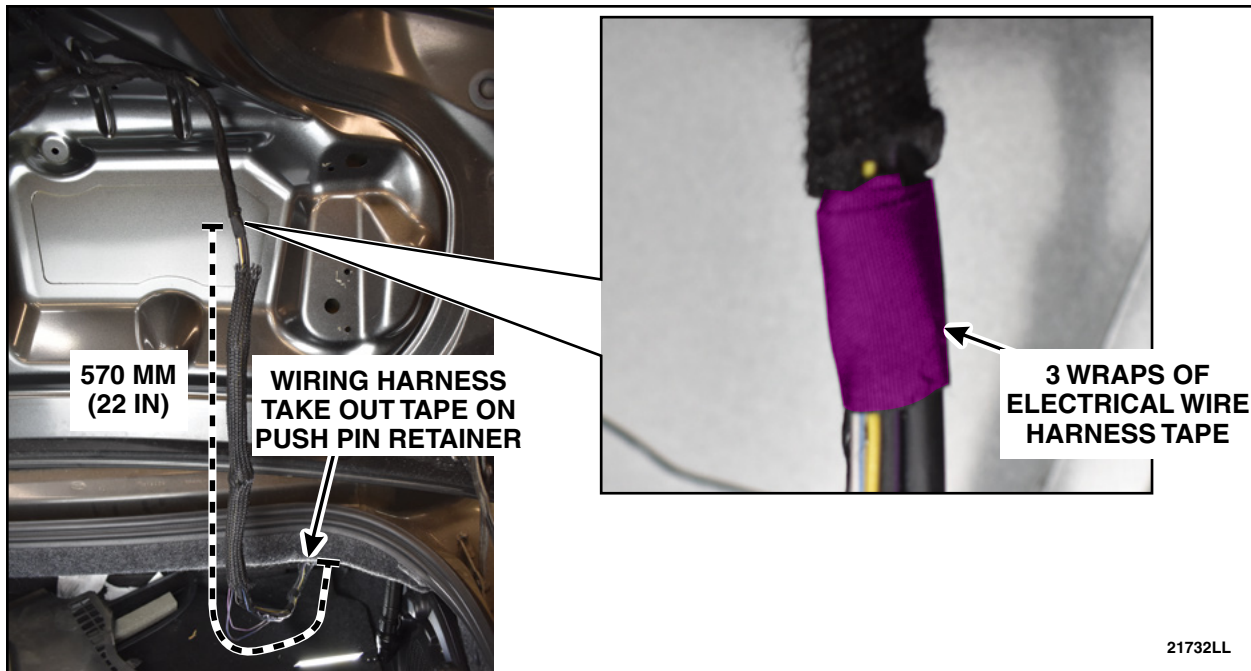

FIGURE 45
64. Measure 570 mm (22 in) from the wiring harness take out tape on push pin retainer. Apply 3 wraps of Coroplast® 837 or equivalent electrical wire harness tape around the harness. See Figure 45.